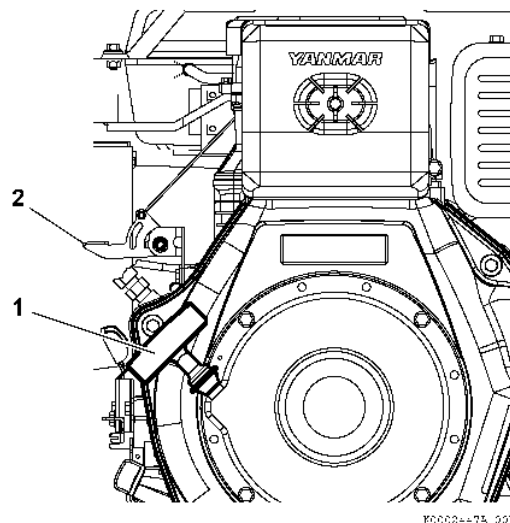

Figure 57
6. Grasp the recoil starter handle (**Figure 57, (1)**).
9. Push the decompression lever (**Figure 57, (2)**) down until it locks in place and then release it.
10. Grasp the recoil starter handle (**Figure 57, (1)**).